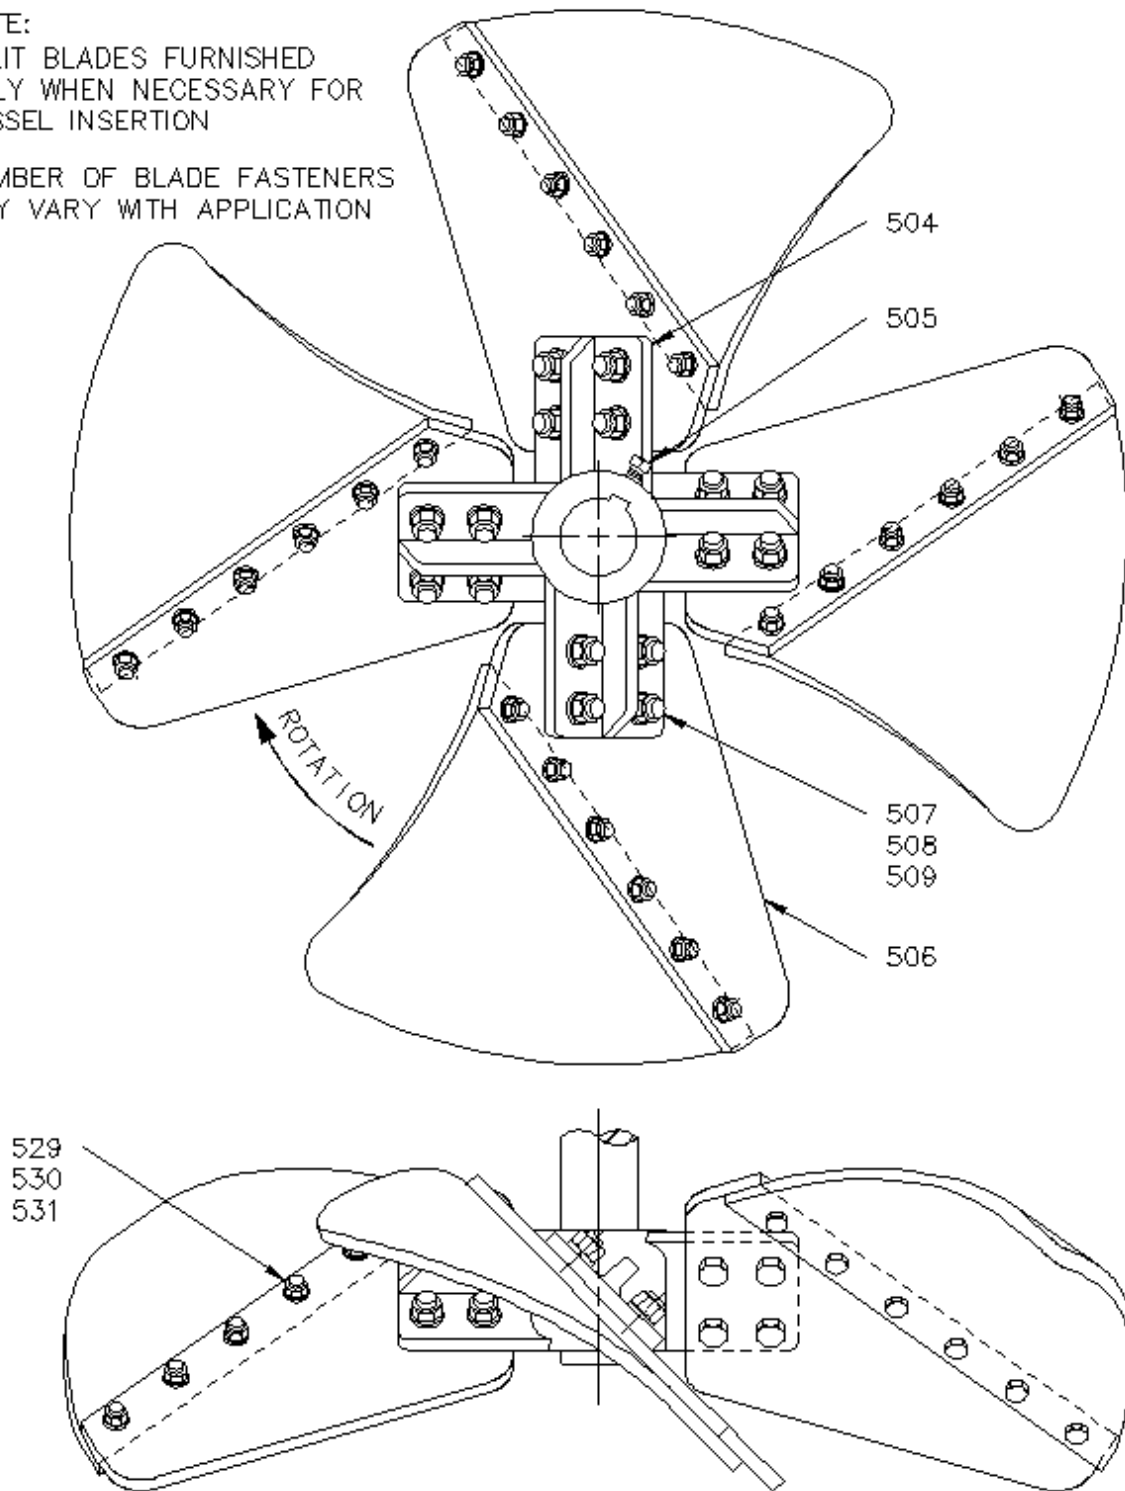

Figure 24. Style Maxflo W Impeller
4. Bolt extension blades [506] to the hub [504] with bolts, nuts and lockwashers [507, 509, 508]. Refer to Figure 18 through Figure 24, page 39 through 45. Bolt split blades, if furnished, to extension blades with bolts, nuts and lockwashers [529, 531, 530]. Bolt stabilizer fins [510], if furnished, to extension blades with bolts, nuts, and lockwashers [511, 513, 512]. Torque bolts to the value shown in Table 12, page 93.